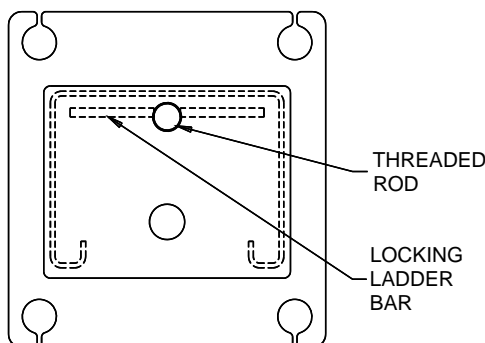

**Fig 7 – Final Runway Positioning**
- 14) Check the layout of the lift in the bay. **(This is the last opportunity to reposition the lift.)** Adjust the position of the runways so the distance from power side jack rail to idler side jack rail is the same at the front and the rear and the diagonal measurements from the front tip of one rail to rear tip of the opposite rail are within 1/4", **Fig 7.**